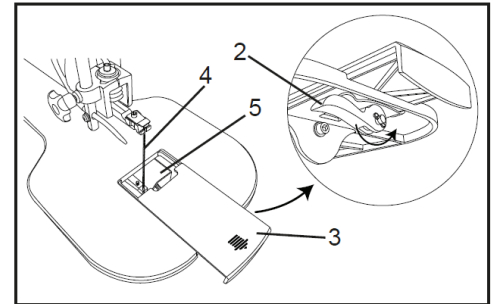
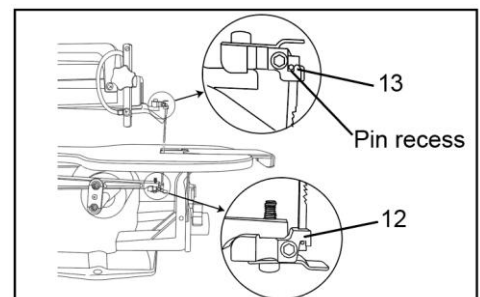

Fig. 2
Fig. 5
The use of any extension cord will cause some loss of power. If you do not have a choice, use the table in Fig.2 to determine the minimum wire size (A.W.G-American Wire Gauge) extension cord needed. Use only 3-wire extension cords which have 3-prong grounding type plugs and 3-hole receptacles which accept the tool's plug. For circuits that are further away from the electrical circuit box, the wire size must be increased proportionately in order to deliver ample voltage to the motor. Refer to Fig.2 for wire length and size.
4. Loosen the table insert locking lever (2) and pull out the quick release table insert (3)(Fig. 2).
4. Install the blade (4) through the access hole (5) in the table with teeth pointing down.(Fig. 2)
2. Loosen the table insert locking lever (2) and pull out the quick release table insert (3). (Fig. 2)
3. Install the blade by inserting one end of it through the access hole (5-Fig. 2) in the table. Hook the lower blade pin in the pin recess of the lower blade holder (12) and then the upper blade pin of the upper blade holder (13). (Fig. 5)
4. Check the pins are properly located in the pin recess of upper (13) and the lower (12) blade holders (Fig.5).